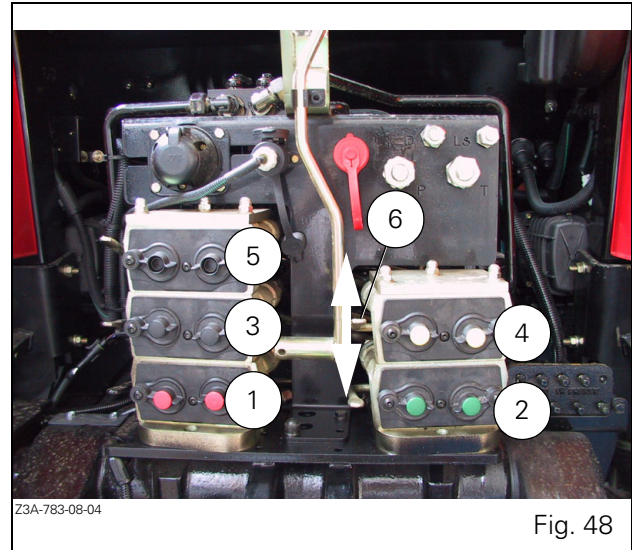

Fig. 48
A colour on the lock control of each lever (C) along with the Joystick colours, correspond to the colours on the cover of each auxiliary spool valve (Fig. 48).